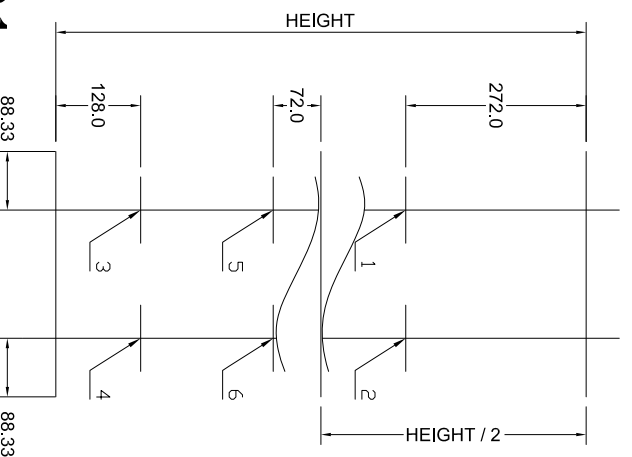
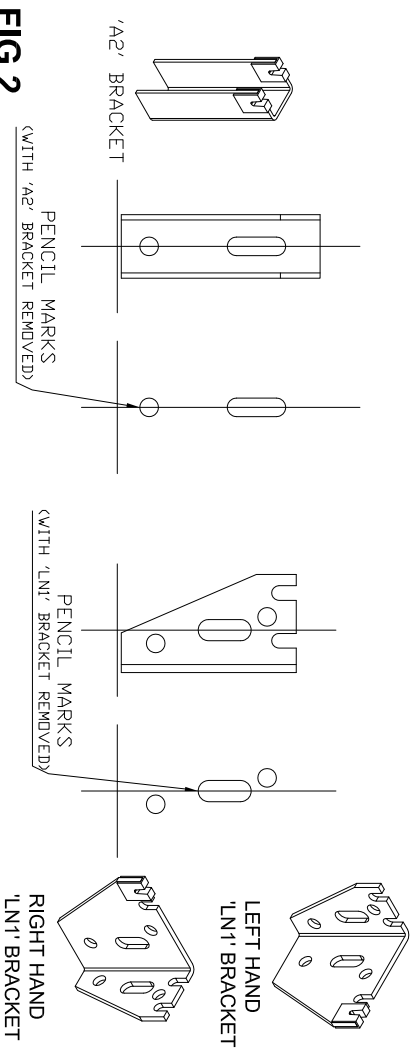

FIG.1
FIG.2
1. Choose the location where you wish to install the radiator and mark the positions for the wall brackets with a pencil as indicated in Fig.1
2. Measure the length 'L' & height as indicated in Fig.1
3. Place the wall brackets over the pencil marks on the wall as show by points 1, 2, 3, 4, 5 & 6 in Fig.1 and mark the positions of the wall plugs and screws, as indicated in Fig.2 please note points 5 & 6 are only on radiators over 1900mm high.